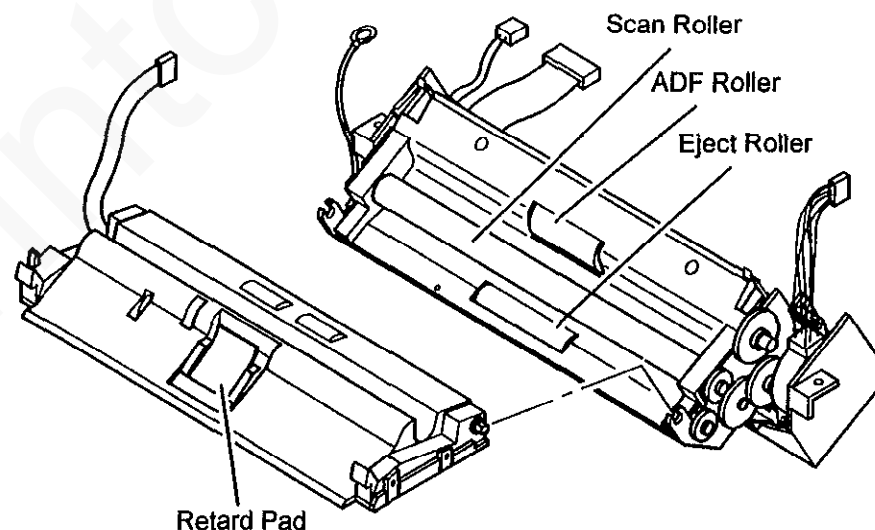
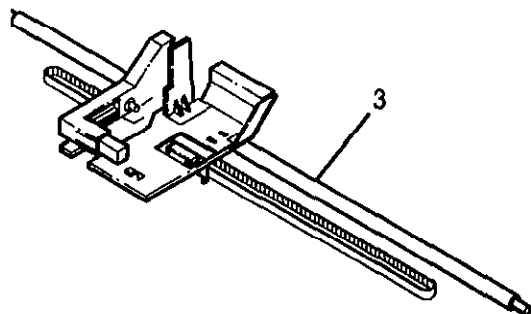

Figure 1 Scanner Feed Path
Figure 2 Lubricating the Carriage shaft
4. Clean using figures 1 - 10, and lubricate using figures 2 - 7, as necessary to maintain the correct printer operation. You should perform these actions as you access the printer for the repair of problems. Lubricate the printer as indicated with the materials listed in the following table.